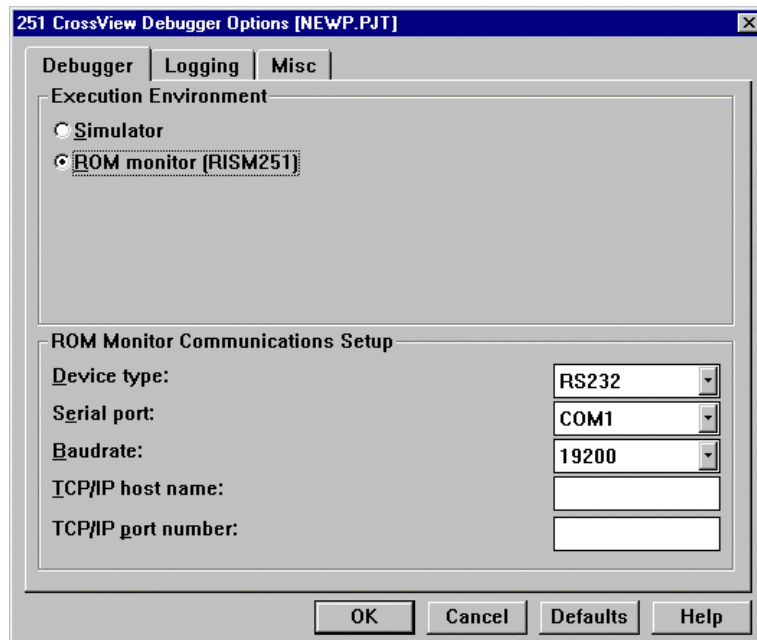

Figure 12 CrossView Pro Debugger Configuration
- Select the correct baud rate. In Figure 12, the baud rate 19200 is selected